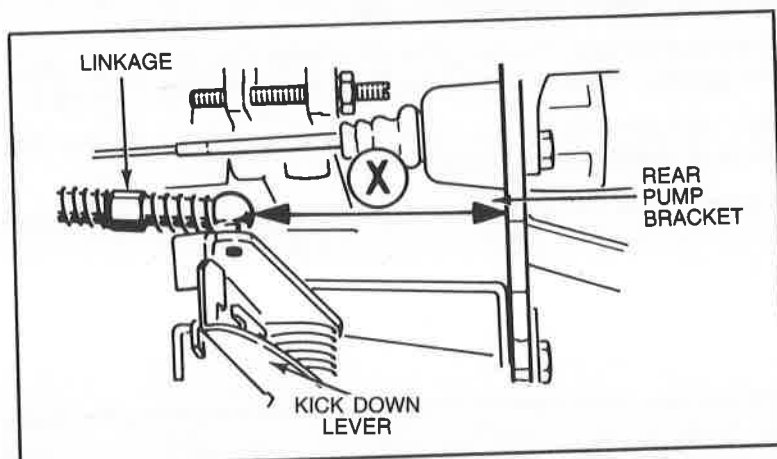

Figure 20 Dimension X
8. Reconnect linkage between throttle lever and transmission kickdown lever. Measure distance between end of link and pump rear bracket (Fig. 20, Dimension X). Dimension X must be 68mm (2.677 inches). Adjust linkage rod as necessary to obtain correct Dimension X.